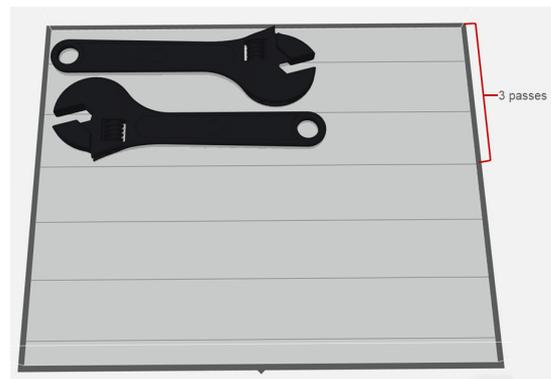

Figure 6: Tray arranged for three printing passes.
- When printing in High Speed mode, arrange the parts on the tray so that they do not exceed three printing passes (Figure 6). This ensures that the ambient temperature in the printing chamber, required for maintaining part quality, remains stable.